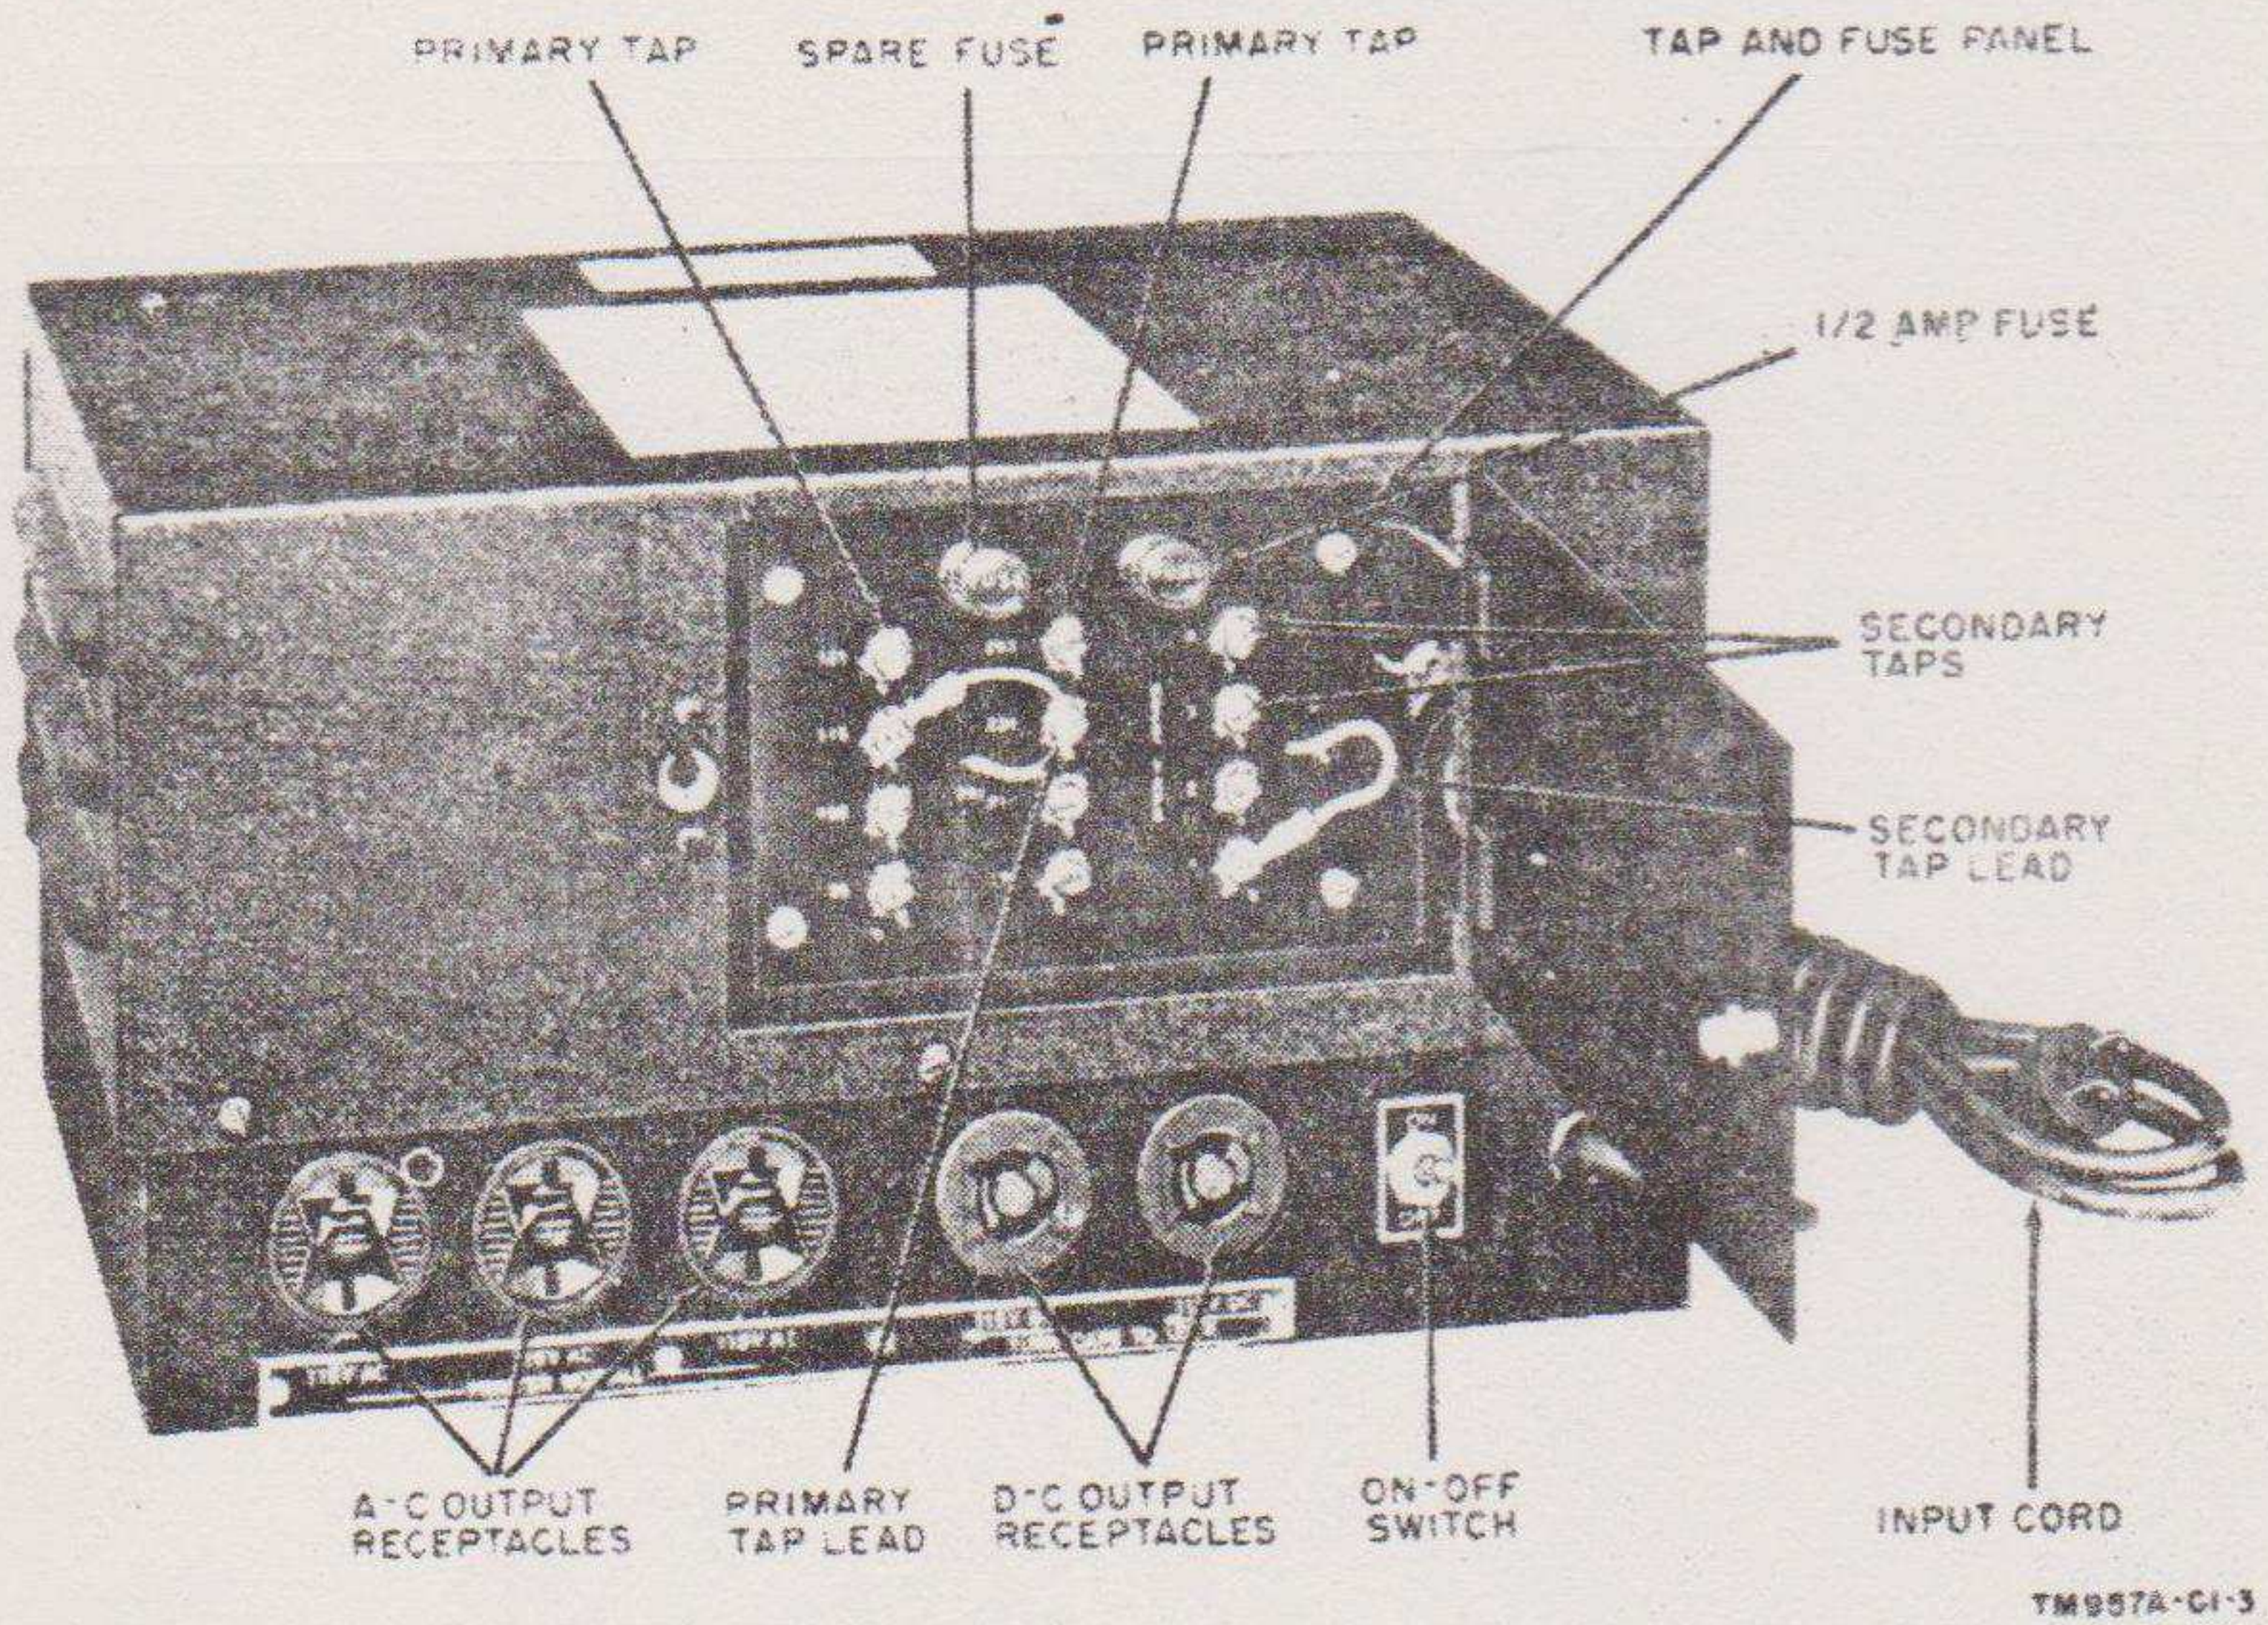

Figure 6. (Superseded). Rectifier RA-87-A, front view.
f. Tap and Fuse Panel Assembly (figs. 6 and 6.1). The tap and * * * of the panel.
b. Transformer Tap Connections (figs. 6 and 6.1). Before connecting the * * * of the rectifier.)